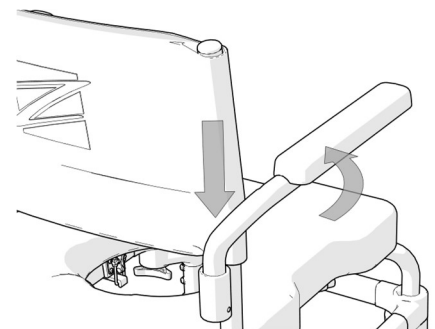

Figure 2.9 Arm Support Installation
2. Install one telescopic leg on the transfer surface in the 45-degree outward orientation (Figure 2.9).